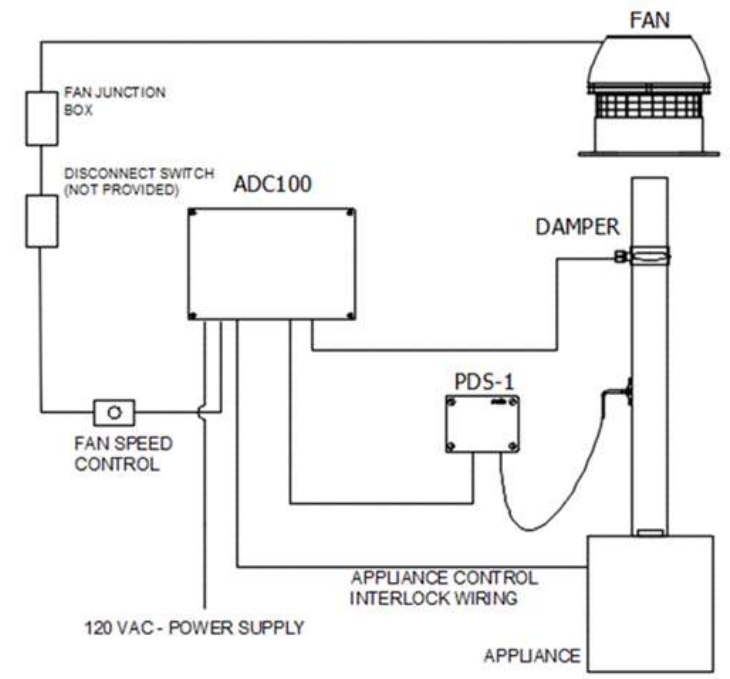
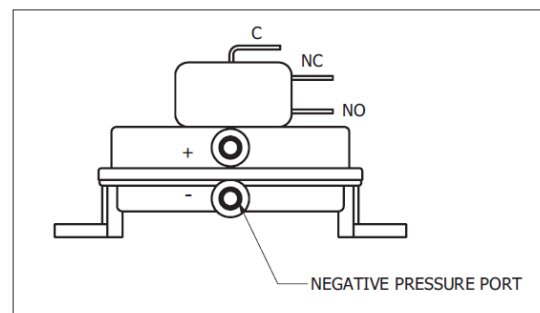

FIGURE 42
FIGURE 44
1. The ADC100 Control Unit must be installed indoors. As shown in **Figure 42**, the control will be wired directly to a 120/1/60 VAC power supply. The control will also be connected to the fan, appliance, and damper.
2. The ADC100 control may be mounted directly to a wall. To mount, remove the cover and locate the (4) mounting holes. Using the hole-pattern shown below, mount the control using #6 screws.
4. A Proven Draft Switch (PDS) must be used with the ADC100 control as a system safety device. The PDS monitors the pressure inside the stack and signals the control to shut down the appliance if insufficient draft exists. A stack probe senses the pressure read by the PDS and is connected via silicone tubing. The silicone tubing supplied with the PDS should be connected to the NEGATIVE (-) port of the PDS. This is the bottom port on the switch. See **Figure 44**. The standard tube length is 6 feet. The distance can be extended up to 25 feet by using 1/4" rigid plastic or copper tubing as temperature allows (not supplied).